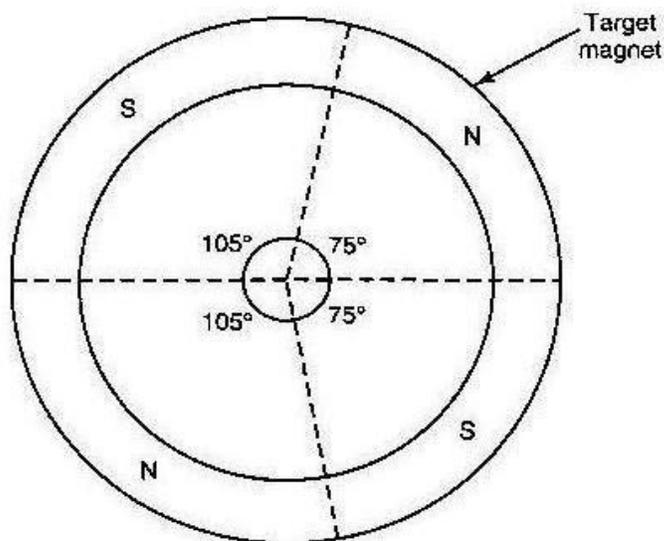

FIGURE 35 Note the target magnet polarity of the CMP sensor for a 2.4L engine.
FIGURE 35 Location of the VSS (vehicle speed sensor) item 3 for a 3.8L SFI V6 engine. Item 2 is the oil pressure/switch sensor, and 1 is the camshaft position sensor. (Courtesy of General Motors Corporation, Service Operations.)